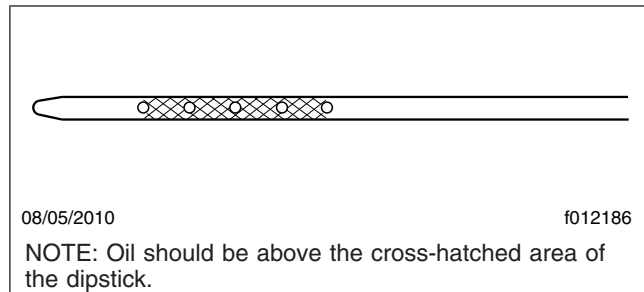

Fig. 15.5, Oil Dipstick
3. If the oil is below the cross-hatched area at the tip of the dipstick, add at least one quart (liter) of the recommended oil. See Fig. 15.5.